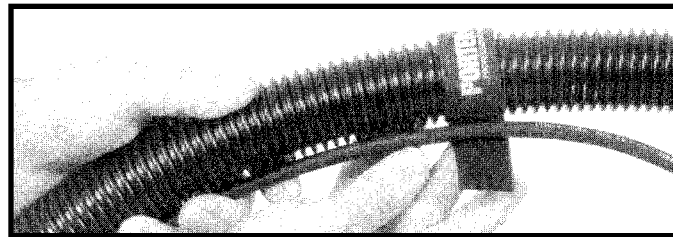

Fig. 3
3. Install the three "hook & loop" type straps to prevent tangling of the Sander cord and the vacuum hose. Lay the cord and the vacuum hose out parallel to each other. Place a strap approximately two feet from each end and place the third strap halfway between the other two. Wrap the long end of each strap around the vacuum hose and close. Wrap the short end of each strap around the cord and close (Fig. 3).